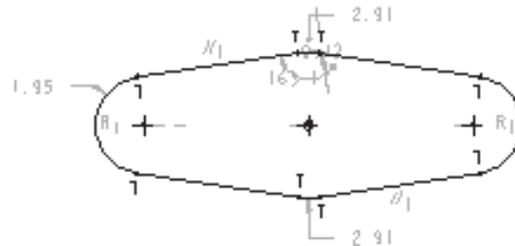

Figure 2-31 Sketch after trimming the circles
3. Similarly, trim the part of the middle circle and the right circle. The sketch after trimming the circles is shown in Figure 2-31.